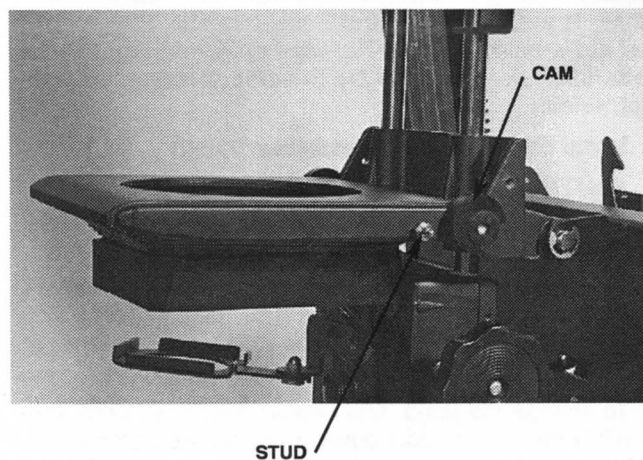

Figure 16
3. When replacing the Condenser Lamphouse with either the Dichro or V.C. Lamphouses it is necessary to remove the stage opening lever. Loosen the two set screws on the righthand cam (fig. 16) and remove the cam. Pull the shaft out from the left.